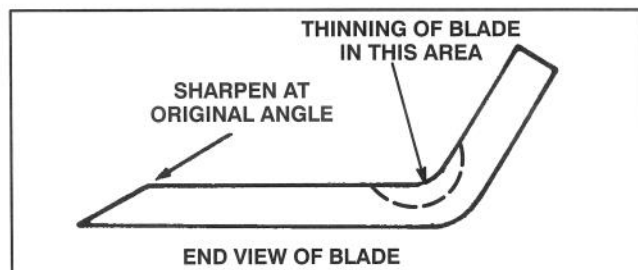

Figure 23
- Using a file, sharpen cutting edge at both ends of the blade (Fig. 23).
Check cutter blade every time rider is tipped on end. If blade bolt holding blade is loose, tighten it to 45-60 ft-lb (61-81 N·m). If blade or sail (Fig. 23) at end of blade is worn, eroded or cracked, replace the blade. Replace the blade if it is bent or out-of-balance. Always use a genuine TORO replacement blade to ensure safety and best performance. NEVER USE A WILL-FIT REPLACEMENT BLADE.